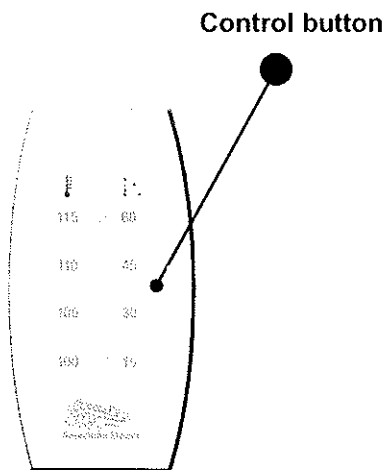

Figure 6
- 1. Starting Your Steam Bath.** Press the "Control Button" momentarily to activate your steam bath session. Your control will come from the factory with a default setting of 60 minutes at 100°F (to change these settings see steps 2 and 3) once the button is pressed you will see a green LED appear indicating the time to be set. Four seconds will pass and a red LED will appear indicating the temperature to be set. (See Figure 6.)